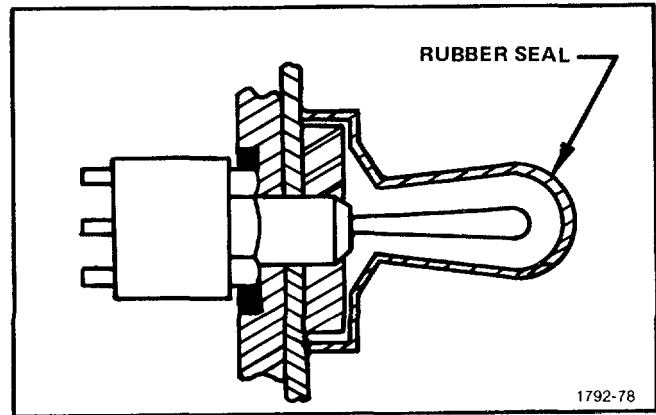

Figure 5-25. Installation of rubber Cap-Seal on RECORD toggle-switch.
5. Install the cap-seal on the toggle switch (see Fig. 5-25).